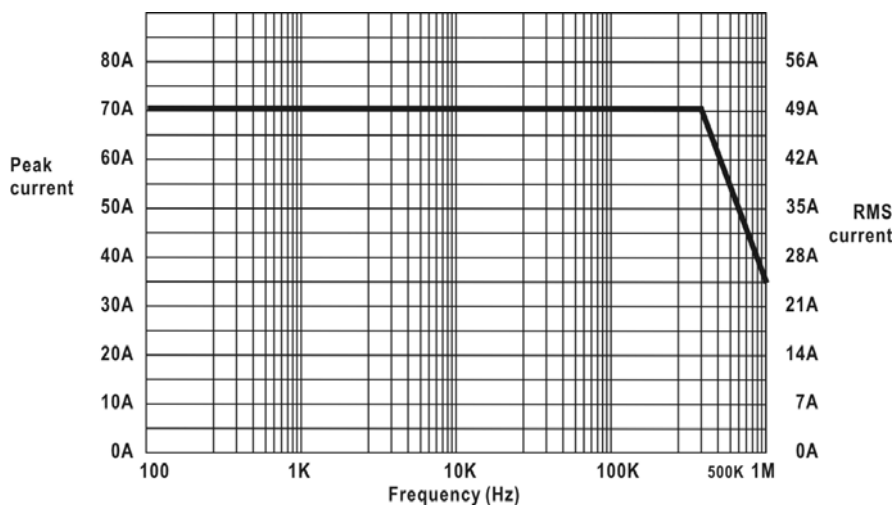

Figure 7: Maximum current versus frequency
*See Figure 7 for frequency derating.